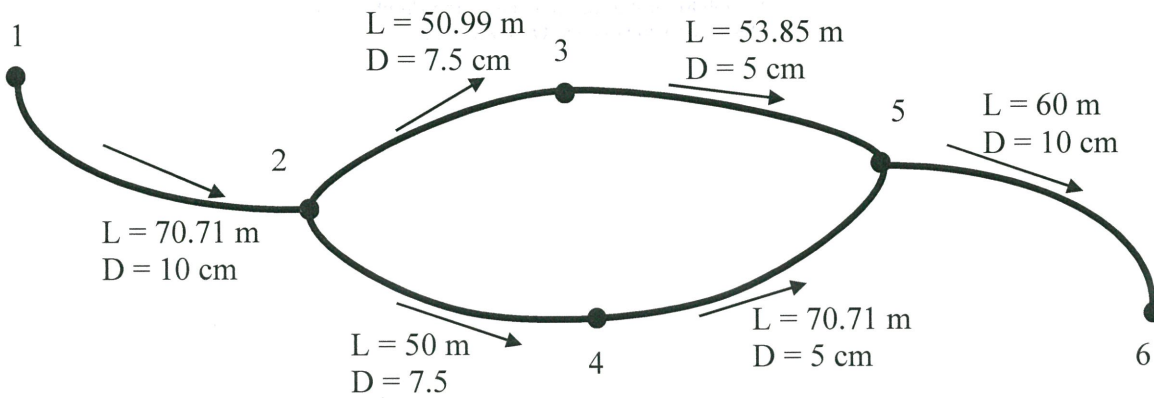

Figure Q2
- Q2** Oil with dynamic viscosity of  $\mu = 0.5\text{Ns}/\text{m}^2$  and density of  $\rho = 800\text{kg}/\text{m}^3$  flows through the piping network as shown in **Figure Q2**. The pressure at the inlet point (node 1) is  $46,400\text{ Pa}$  and the pressure at outlet point (node 6) is  $-4,000\text{ Pa}$ . An additional pressure at point (node 3) is  $34,974\text{ Pa}$ . Given the dimensions of the piping system and the laminar flow throughout the system;